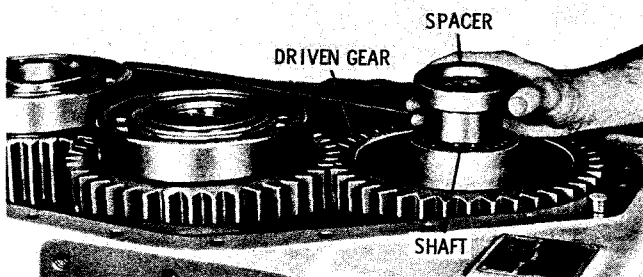

Fig. 7-118. Installing transfer driven gear rear spacer
(8) On vertical dropbox models, install the driven gear onto the shaft (gear previously installed on horizontal type). Install the spacer onto the shaft (fig. 7-118).